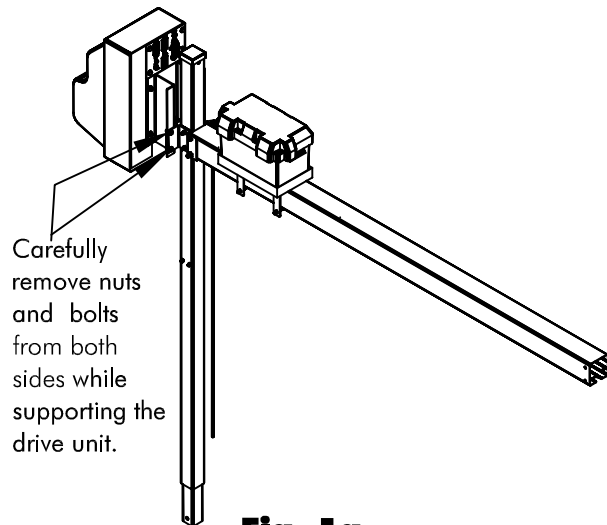

Fig. 1a
Step 3: Support the drive unit while removing the (4) nuts from the bolts as shown in fig 1a. While holding the drive up remove the bolts and separate the unit from the lift frame. Note: Do not discard the bolts, nuts, and washers. You will need them to attach the new VSD Drive Train.